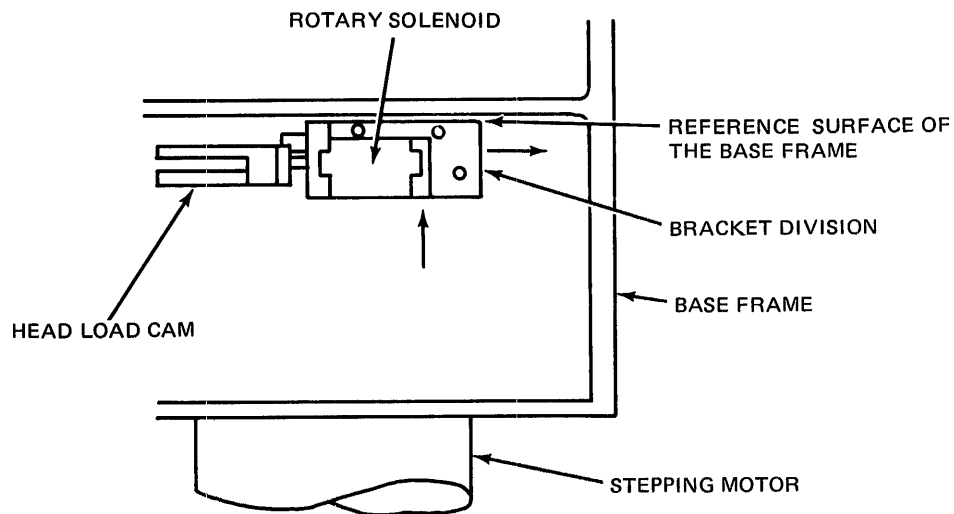

Figure 4-7 Installing the Head Load Cam Assembly
- a. Hold the head load cam assembly against the reference surface of the base frame and install the screws (see Figure 4-7).